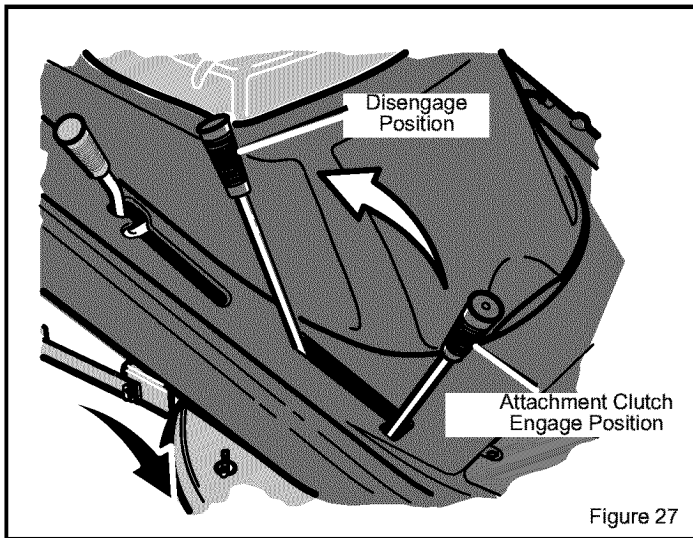

Figure 27
2. Move the **attachment clutch** to the **DISENGAGE** position (Figure 27).